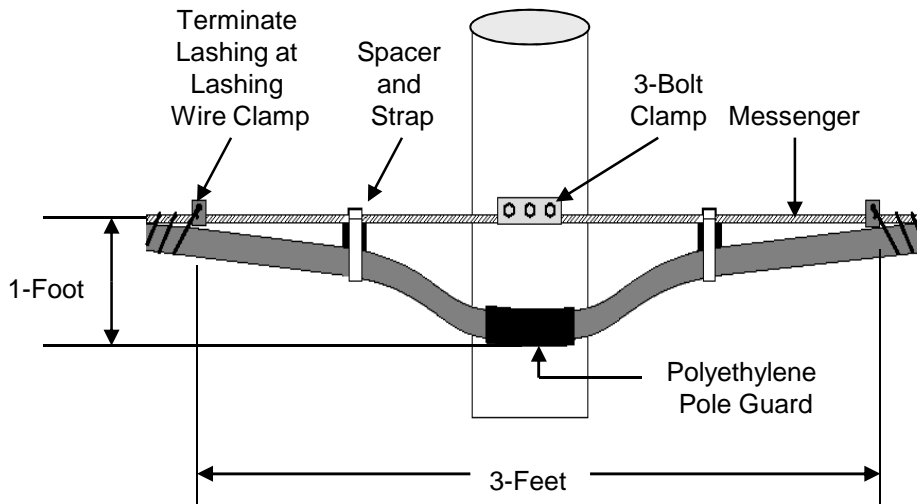

Figure 26
20.2.4 Slack loops at poles are required to accommodate thermal expansion and contraction movements. Loosen lashing or cable ties about 1-1/2' from either side of the pole to allow slack loop to move easily. **See Fig. 26.**